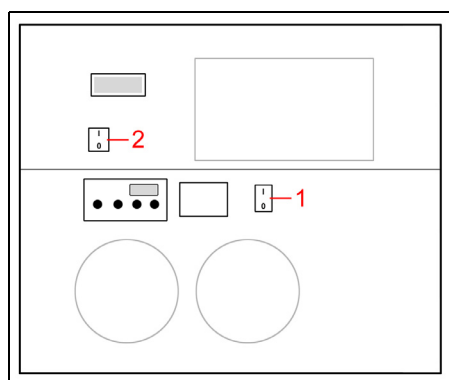

Figure 55: Cooling and supply unit of the "InSight DeepSee" infrared laser
1. Switch on the cooling for the infrared laser (**see Figure 55, item 1**). The cooling requires approx. 4 hours to regulate the temperature of the infrared laser.
2. After 4 hours, switch on the supply unit for the infrared laser (**see Figure 55, item 2**).